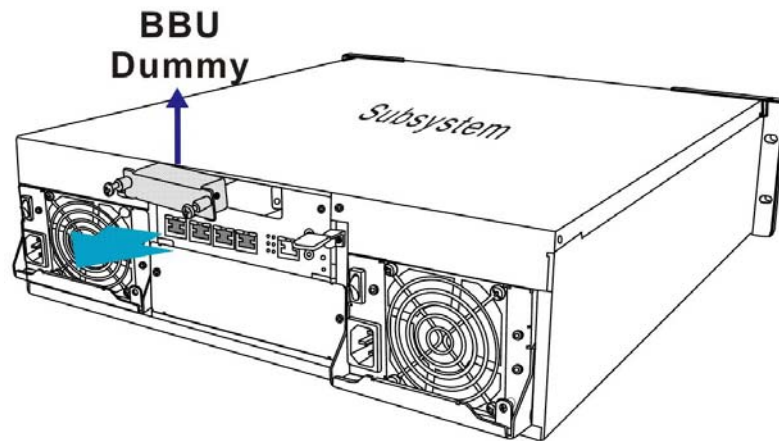

**Figure 2-2: Loosening the BBU Retention Screws**
Step 2. Use a screwdriver to *loosen the two (2) retention screws located on both sides of the dummy plate*. (See *Figure 2-2*)